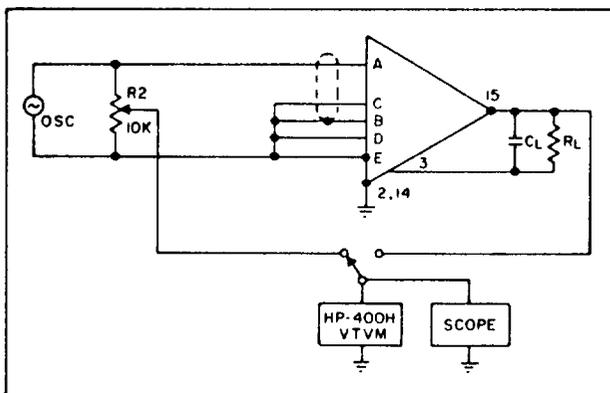

Figure 6-2. Frequency Response Test Circuit ($G < 1$)
- 1) Connect the amplifier as shown in Figure 6-2. R2 is a multi-turn potentiometer, as before.
- 4) Repeat steps (4), (5), (6), and (7) of the previous procedure.